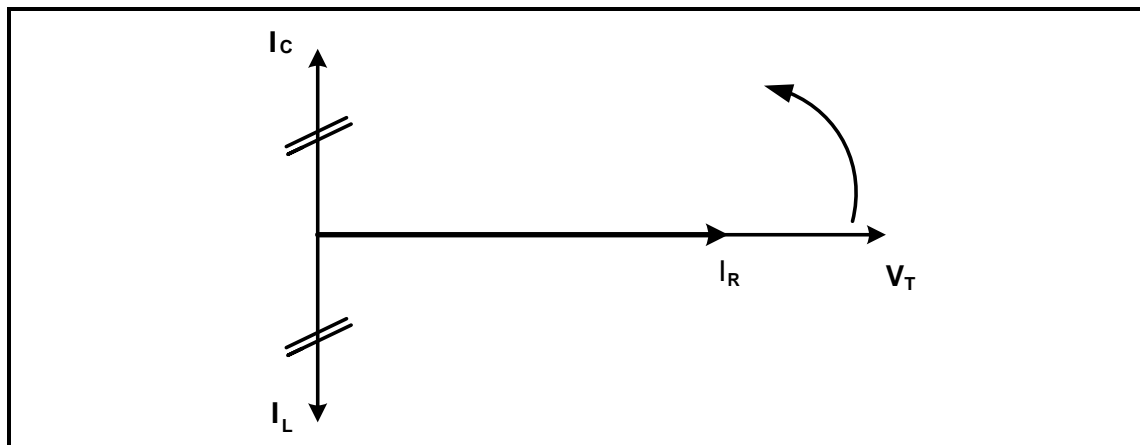

FIGURE 2.3: PHASOR DIAGRAM
2.3 Refer to FIGURE 2.3 below and answer the questions that follow.
- 2.3.1 Identify the phasor diagram in FIGURE 2.3. (2)